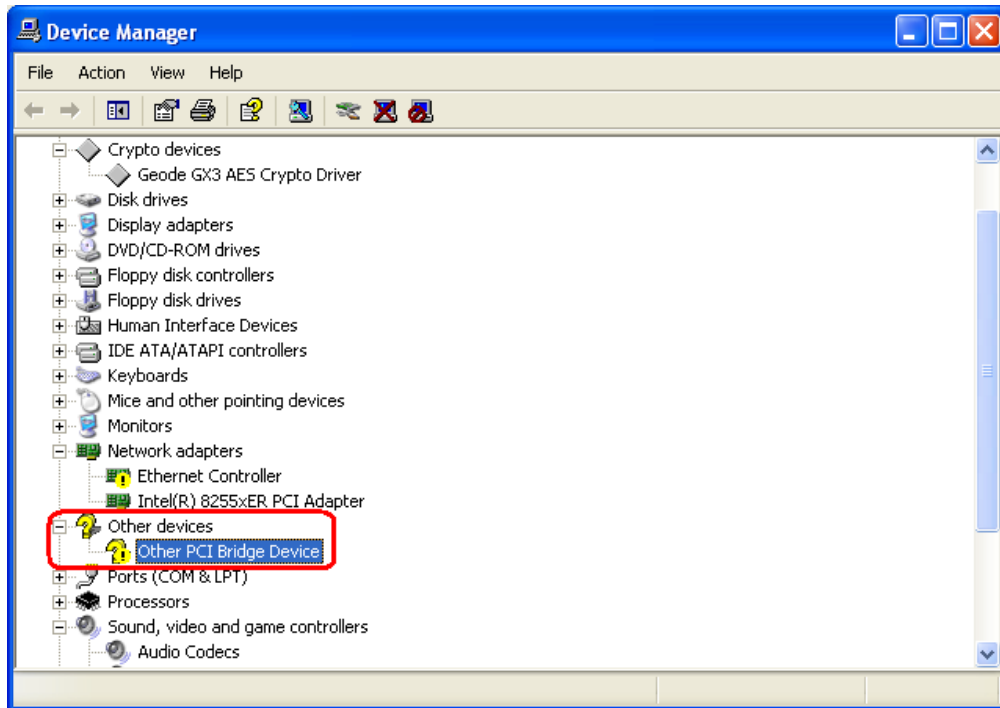

Figure 7-42: Other PCI Bridge Device Controller (Device Manager)
- Step 2:** Right-click the **OTHER PCI BRIDGE DEVICE CONTROLLER** option listed under **OTHER DEVICES** in **Figure 7-42**.